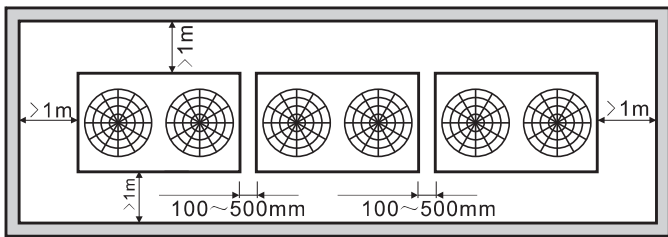

Fig. 3.9 Installation space of outdoor unit
3) When outdoor units are higher than surrounding barriers and they will be arranged in a row, please see Fig.3.9.